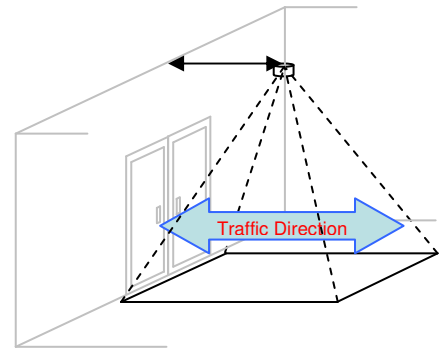

Figure 9.1
- Avoid mounting the counter over a doorway where the door opens into the scene, where possible. In any case the counter should always be positioned optimally as shown in section 9, Figure 9.1.